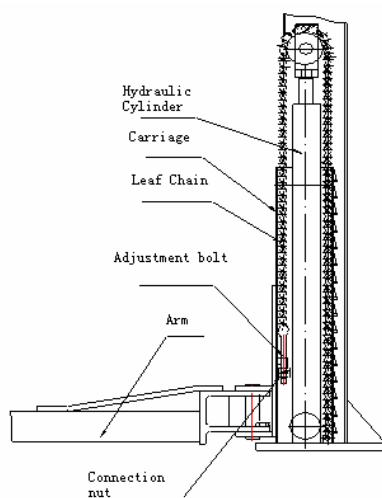

Fig 4
- Check to see if the connection between hydraulic cylinder and carriage is proper, if the connecting nut between the steel chain and carriage is loose or falling. Refer to Fig.4